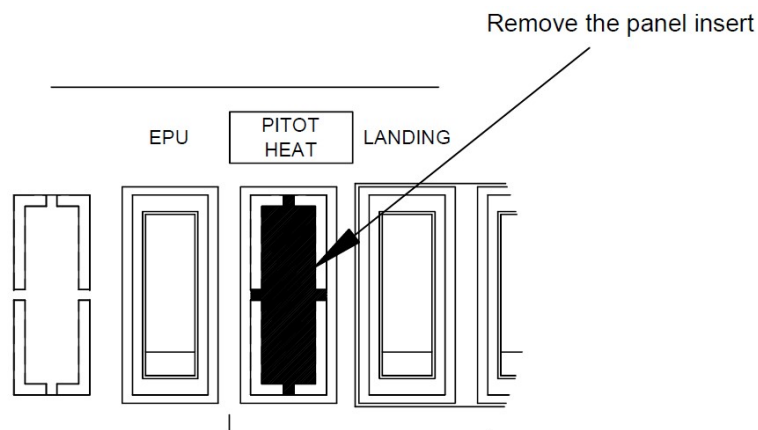

Figure 5: PITOT HEAT Rocker Switch
- 11.1.8** Remove the panel insert and file smooth as required, as shown in Figure 5. Install the Rocker Switch (p/n: K1ACAPCADA).